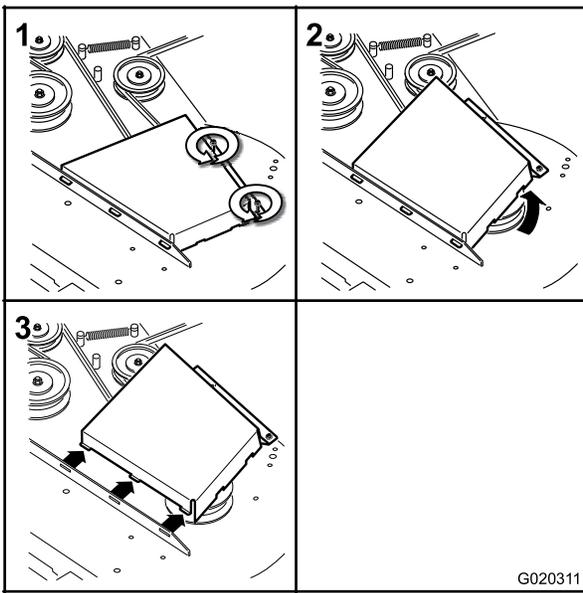

Figure 68
- Remove the belt covers (Figure 68).